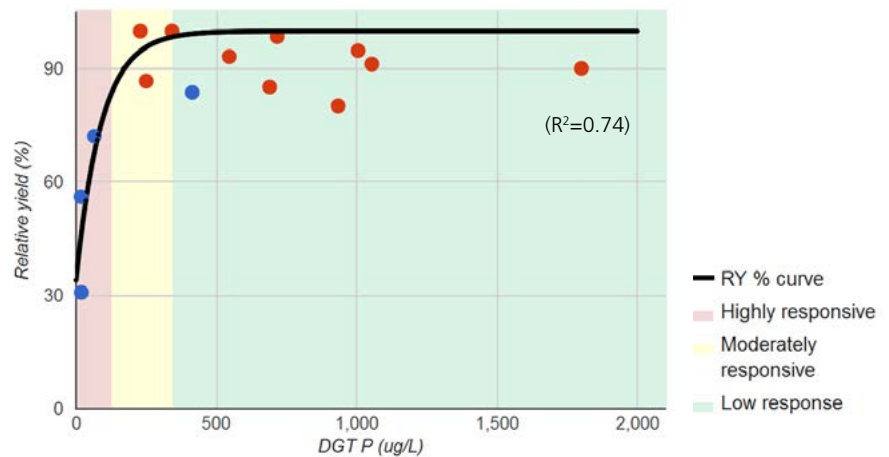

Figure 1: Relationship between DGT values and potato response (relative yield).
**Figure 1:** Components of the DGT method including the iron oxide binding gel (orange) underneath a clear diffusive gel. A filter paper is placed on top (not shown).
DGT has been developed for the assessment of available P in a wide range of soils. The mode of measurement is by diffusion of available P in the soil toward a P sink (an iron oxide gel) via a membrane which controls movement of P to the sink (Figure 1). The gel and protective filter paper are held securely in a plastic piston device. This is deployed on moist soil (Figure 2) for around 24 hours after which the device is washed, and the amount of P bound to the gel is then measured.
- The DGT test shows a strong relationship between DGT-P values and relative yield (Figure 1).
- Only four of the fifteen replicated trials were significantly responsive to applied P fertiliser (responsive sites, shown in blue on Figure 1); hence, eleven of the sites did not achieve significant increases in yield when P fertiliser was applied, owing to the high starting P status of the soil (non-responsive sites, shown in orange in Figure 1).
- Trial results to date indicate that the critical DGT-P value required to obtain >90% relative yield is 171 µg/L; with a 95% confidence interval fitted to this value, the critical range is 75 - 310 µg/L (Figure 1).